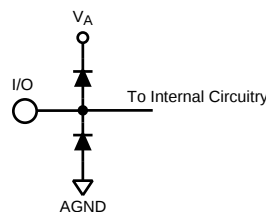

Figure 2.
- (1) The inputs are protected as shown below. Input voltage magnitudes above V_A or below GND will not damage this device, provided current is limited per Note 4. However, errors in the A/D conversion can occur if the input goes above 2.6V or below GND as described in the Operating Ratings section. See Figure 2.
- (2) With a full scale differential input of $2V_{P-P}$, the 12-bit LSB is $488\text{ }\mu\text{V}$.
- (3) Typical figures are at $T_A = 25^\circ\text{C}$ and represent most likely parametric norms at the time of product characterization. The typical specifications are not ensured.
- (4) The input capacitance is the sum of the package/pin capacitance and the sample and hold circuit capacitance.
- (4) This parameter is specified in units of dBFS - indicating the value that would be attained with a full-scale input signal.
- (2) With a full scale differential input of $2V_{P-P}$, the 12-bit LSB is 488 μV .
- (4) This parameter is ensured by design and/or characterization and is not tested in production.